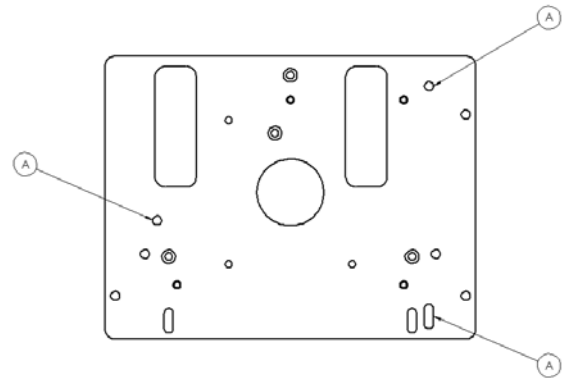

Figure 1. Group A Hole Alignment
4. Using Figure 1, find the proper mounting holes in SLB-9000 for your projector.